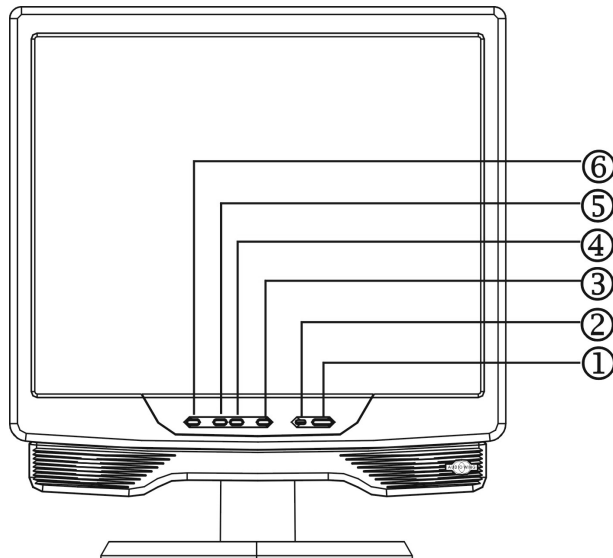

Figure 4 - External Controls
1. Press the MENU-button to activate the OSD window (Figure 4).